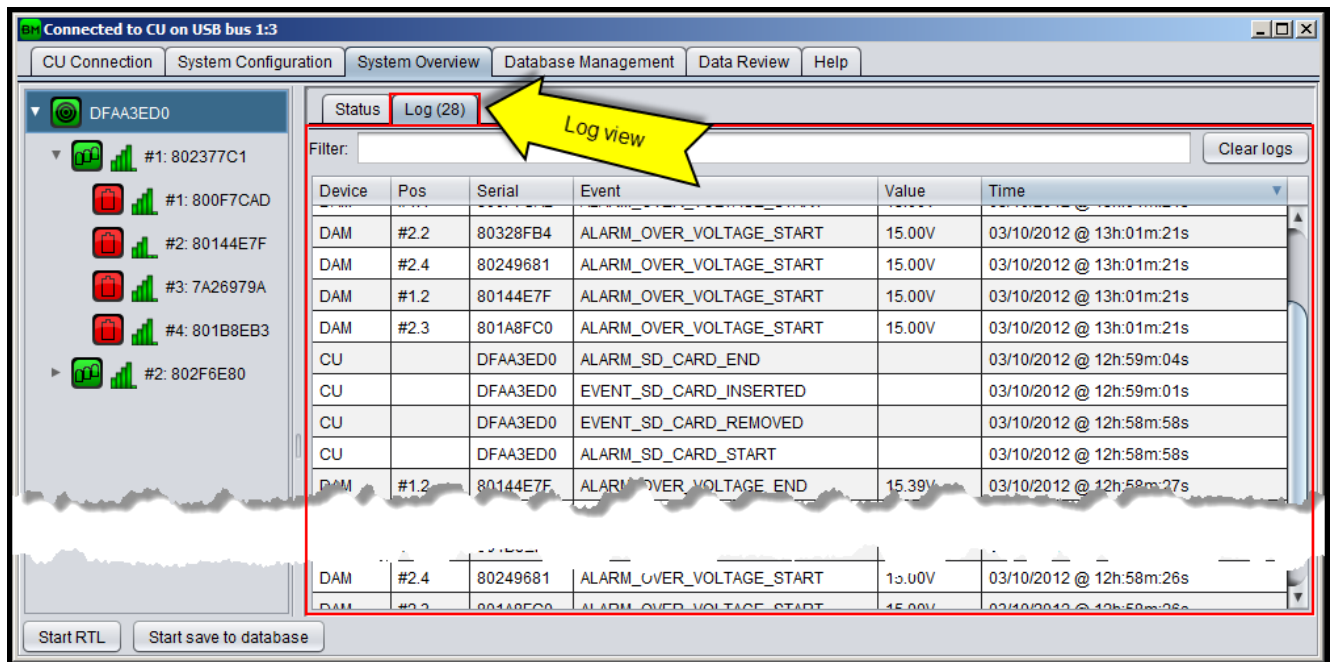

Figure 34: System overview log tab
- ▶ **Log view:** Shows the events and alarms history (see §9 for events and alarm description) for each device level (system, string, battery) since the application connection to the CU as shown on Figure 34.